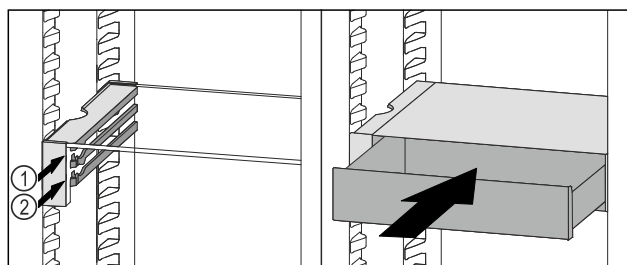

Fig. 102
- ▶ Place the VarioSafe drawer behind the stoppers on desired rib *Fig. 102 (1)* or *Fig. 102 (2)*.